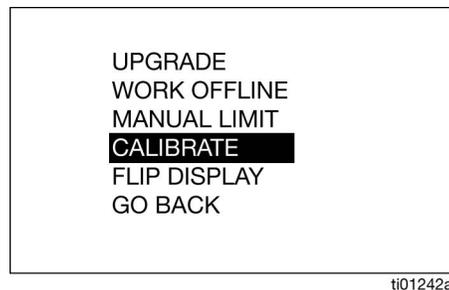
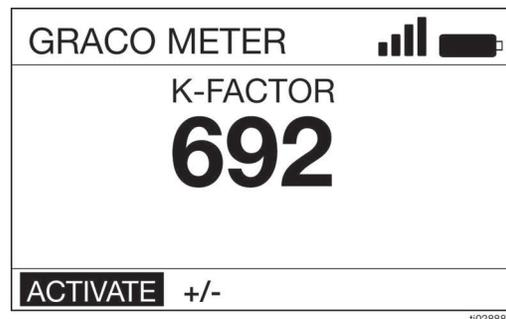

FIG. 15
FIG. 16
- Select the CALIBRATE option to display the calibration K-Factor screen (FIG. 15 and FIG. 16).
5. Select ACTIVATE then press the ENTER button to begin dispense controller calibration (FIG. 16).